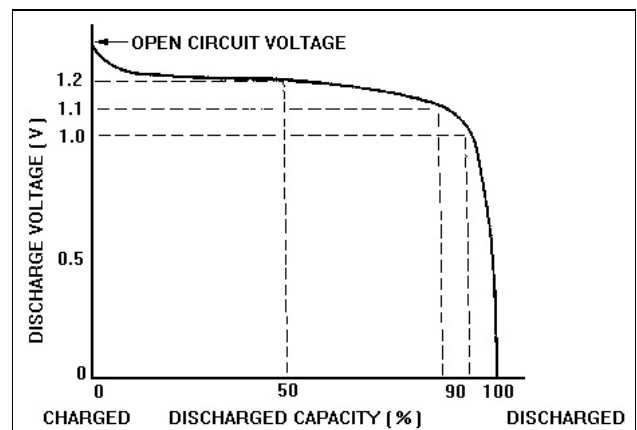

Figure 9 - Typical Cell Discharge Curve
1. Discharge the battery pack at a normal discharge rate until the output voltage is approximately 1 Volt per cell. This equals 6 Volts output for the battery packs. Refer to Figure 9. Note the flatness of the discharge curve from 0% - 90%. Experience shows discharging below the "knee is not necessary.